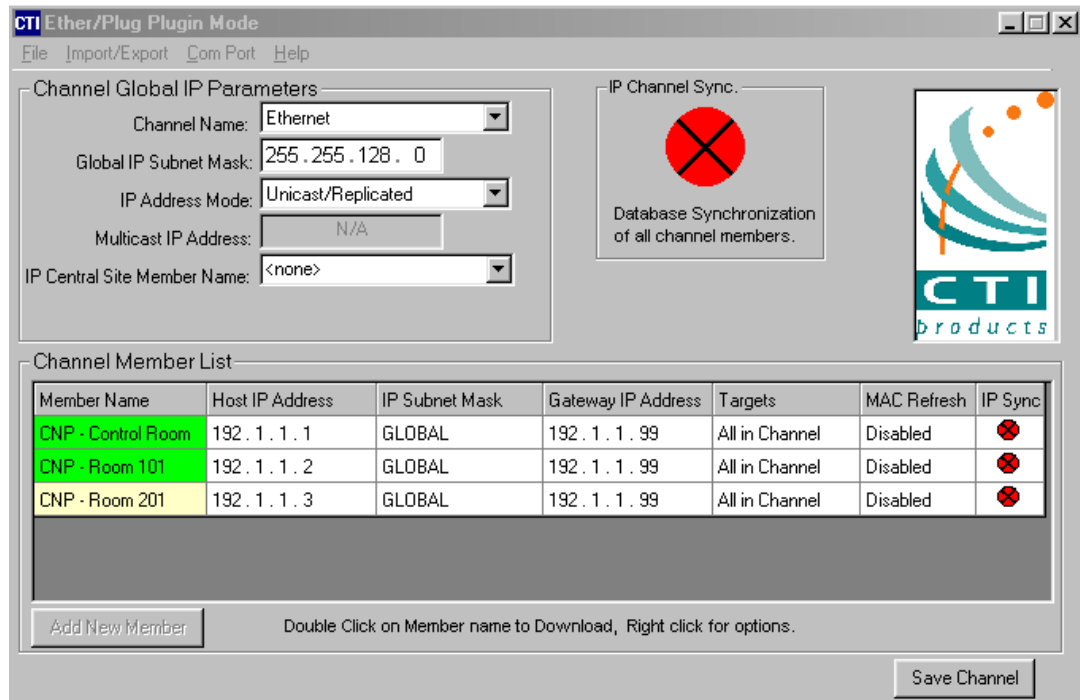

Figure 6 Main EtherPlug window (started as an LNS Plug-in)
- Click **OK** . The plug-in will appear as shown in Figure 6 below.